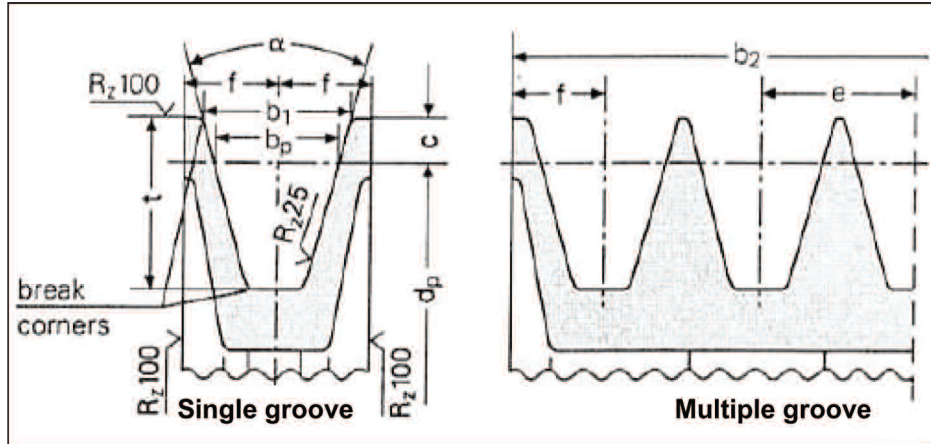

fig. 10
- a) Use pulleys with v-belts with the size of the groove required/recommended by the manufacturer of belt used. In the absence or directions, follow fig. 10 and the table in fig. 11.